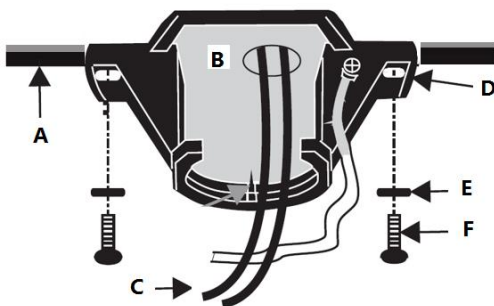

Fig. 7
Pass the power supply wires (C) from the ceiling outlet box (B) through the center of the ceiling mounting bracket (D). Install the ceiling mounting bracket (D) on the outlet box (B) with the mounting screws (F) provided with the outlet box and washers (E) provided with fan. **Fig. 7**